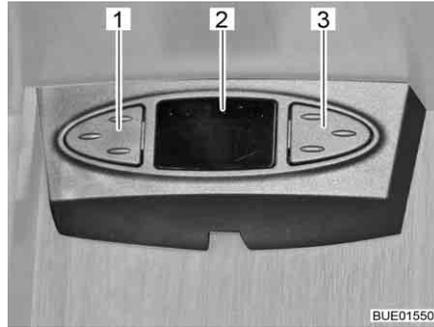

Fig. 40 Satellite mouse
Depending on the model, the satellite receiver is equipped with a satellite mouse. The satellite mouse's display (Fig. 40,2) shows the current channel. The two buttons can be used to operate the basic functions of the satellite unit (changing channel, switching on/off).
- Choosing the previous channel from the list: Press left button (Fig. 40,1).
- Choosing the next channel from the list: Press right button (Fig. 40,3).
- Switching between radio and TV: Press the buttons (Fig. 40,1 and Fig. 40,3) briefly at the same time.
- Switching the receiver on/off: Press and hold the buttons (Fig. 40,1 and Fig. 40,3) at the same time.